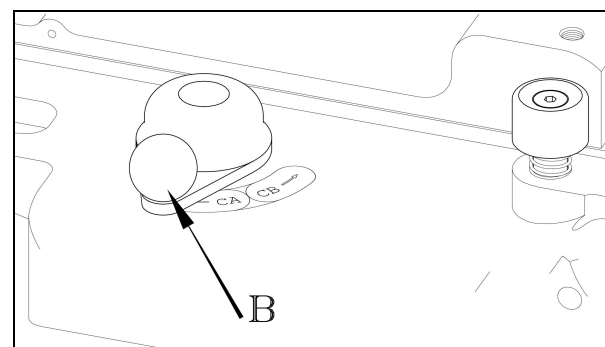

Fig 4
3. Refer to Fig 4. Change the CB/CA selector (B) to the CA position.